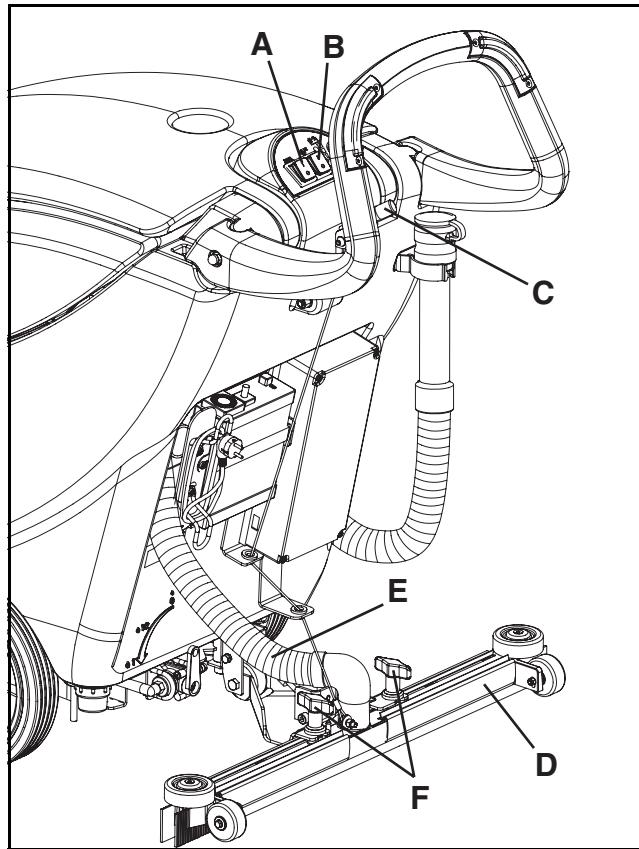

Figure 24
1. Make sure that the switches (A and B, Fig. 24) are in the "0" position.
2. Lower the squeegee (D, Fig. 24) by means of the lever (C).
3. Disconnect the vacuum hose (E, Fig. 24) from the squeegee.
4. Loosen the squeegee knobs (F, Fig. 24) and remove the squeegee (D).
- 4. Reinstall the squeegee (D, Fig. 24) and screw down the squeegee knobs (F).
- 5. Connect the vacuum hose (E, Fig. 24) to the squeegee (D).